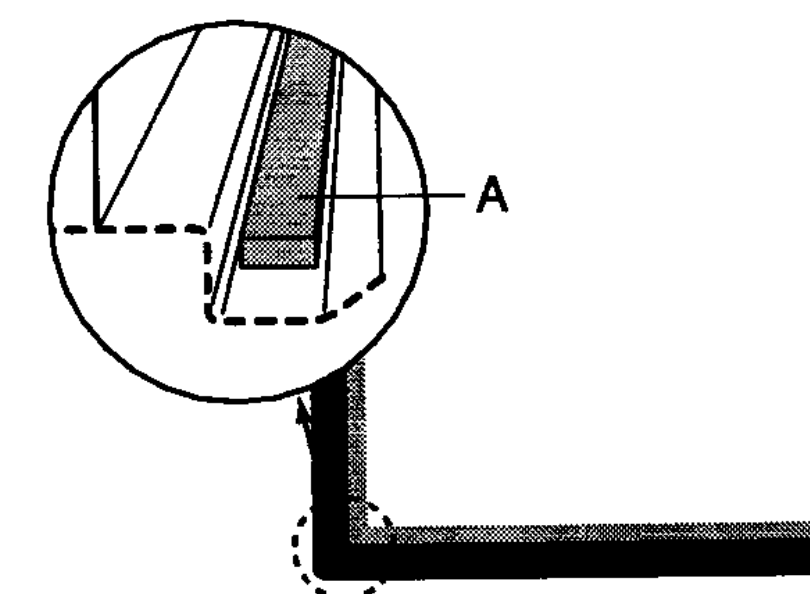

fig. 5
- Stick the sealing strip supplied (A) onto the underside of the hob (see fig. 5).